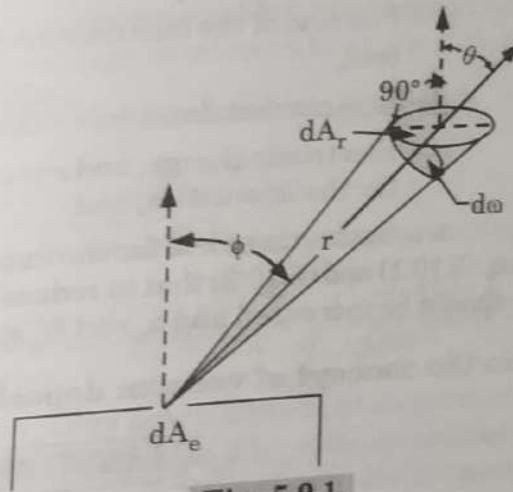

Fig. 5.9.1.
- ▶ For evaporation from a small-area source and deposition on a plane receiver, the geometric relationships are shown in Fig. 5.9.1.